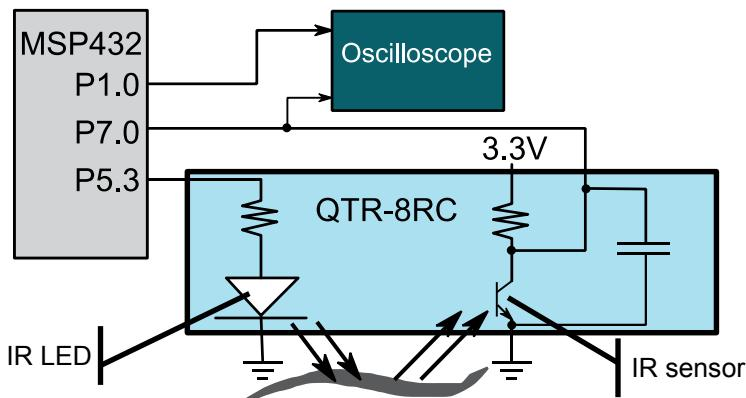
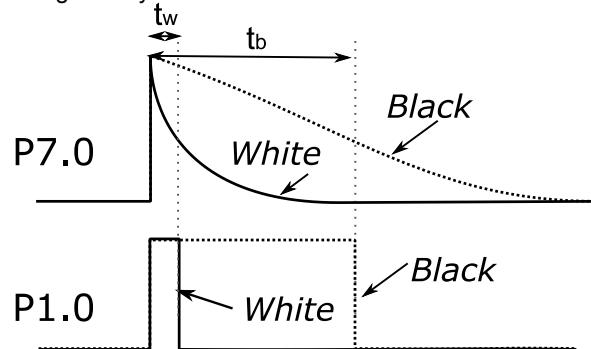

Figure 7. Hardware configuration for one sensor.
Figure 8. Conversion of light to voltage, and voltage to binary
We will use Port 5, bit 3 as an output, connected to IR pin of the line sensor. P5.3 turns on the infrared (IR) LED, P7.0 is connected to one of the sensor pins of the QTR-8RC, and P1.0 is set as a digital output (used in this section for testing). See Figure 7. In particular, the goal of this section is to observe how the reflectance of the given surface affects the voltage on P7.0, and how the microcontroller converts the voltage on P7.0 into binary data depending on the color of the reflective surface.
Note: Basically, what is happening is the 10 μ s output pulse on P7.0 charges a capacitor on the QTR-8RC board (see Figure 7). Once the microcontroller sets the pin to input, the reflected light on the light-sensitive transistor discharges the capacitor. The white reflective surface has more light on the base of the transistor, and conducts more current through the collector-emitter. This current discharges the capacitor. Notice the white surface discharges faster and P7.0 falls more quickly. Using the rise of P7.0 as a time reference of 0, measure the time P1.0 falls for the white and black surfaces, see Figure 8. For a white surface, measure the time t_w . For a black surface, measure the time t_b .